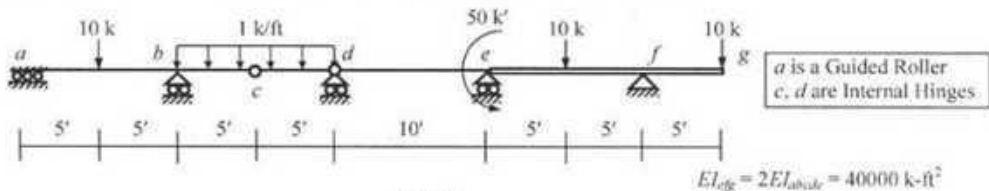

Fig. 8
8. Use Flexibility Method (considering flexural deformations only) to draw the bending moment diagram of the beam loaded as shown in Fig. 8 Given:  $EI_{efg} = 2EI_{abcde} = 40 \times 10^3 \text{ k-ft}^2$ .
9. Use the Moment Distribution Method to calculate the joint moments and draw the bending moment diagram of beam  $abcdefg$  loaded as shown in Fig. 8.